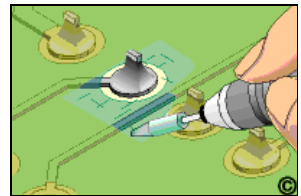

Figure 2: Rubberized abrasives are used to remove thin hard coatings.
2. Insert the appropriate Ball Mill or Abrasive Bit into the hand piece of the Micro-Drill. Gently grind away the coating as needed. (See Table 1 and Figure 2, 3 and 4.)